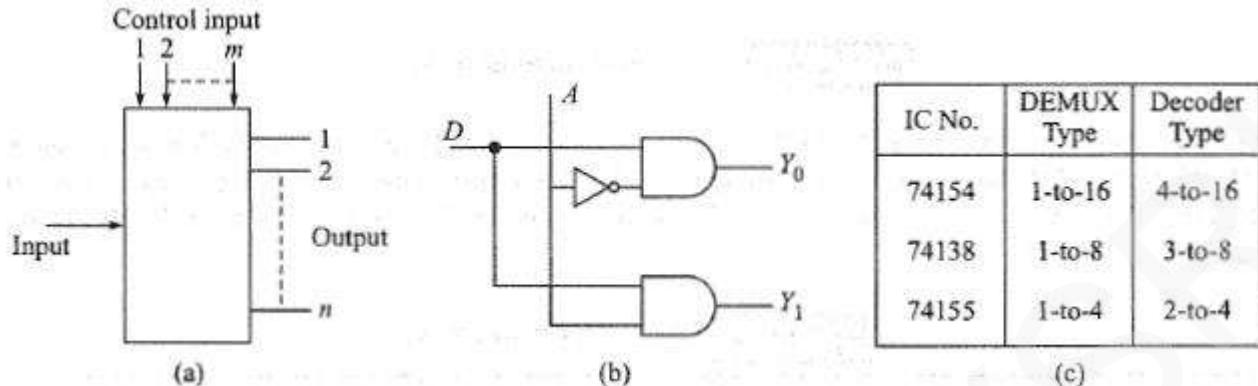

Figure 4.9: (a) Demultiplexer block diagram, (b) Logic circuit of 1-to-2 demultiplexer, (c) few commercially available ICs
- It is a digital circuit with 1 input and many outputs (Figure: 4.9).